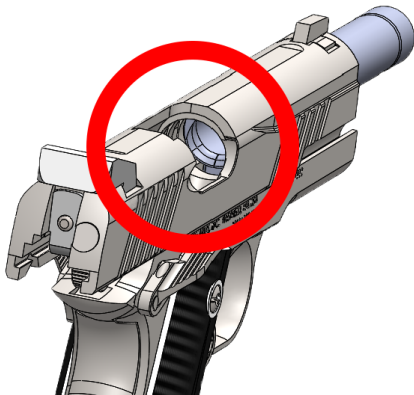

Figure 17
- You are now able to safely check the barrel chamber and bore visually for any obstructions – Figure 17. You must be certain there are no cartridges in the chamber or obstructions in the barrel.